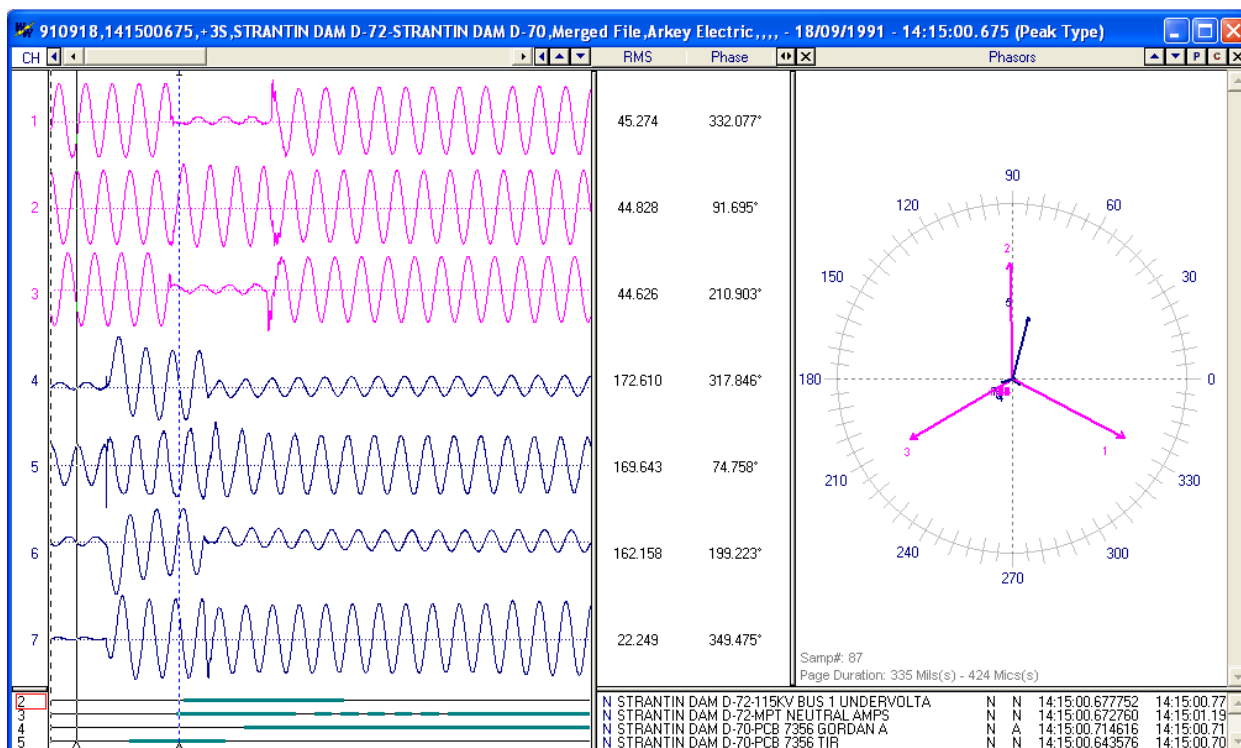

Figure 1.55 Merge Open Files – Result: By Sample (As Applied to Figure 1.51)
- By Sample: Merge regardless of time stamps and/or data bar positions. The reference time is from the active window. And the file with the least amount of samples determines the length of the file. Refer to Figure 1.55.